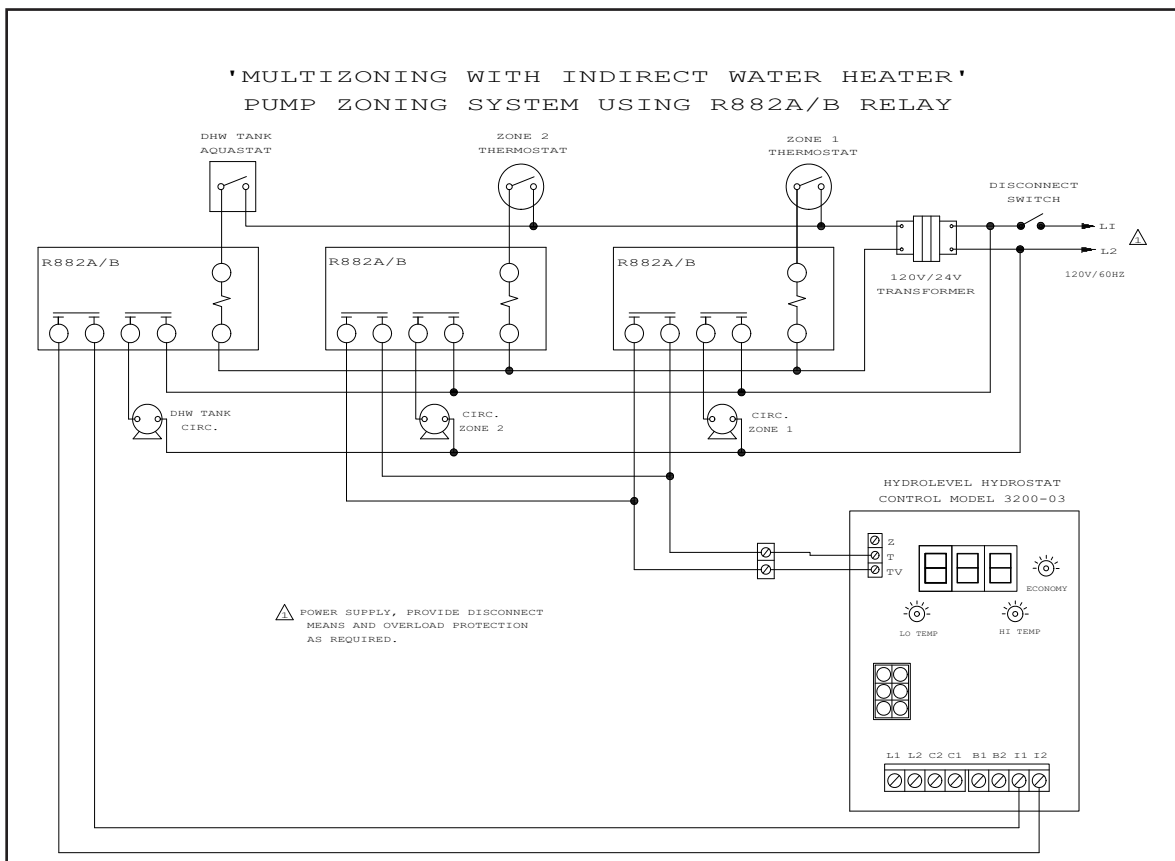

Figure 6. Multizoning of Galaxy II boiler-2 zone system pump zoning system using R882A/B relays.
If system includes indirect water heater, the indirect signal must be separated from heating zones(s) system. See figure 6 and 8. Follow steps below:
- Power DHW and heating zone(s) circulators through end switch relays as shown on figure 6. Do not connect heating zone(s) circulators to C1 and C2 of the control.